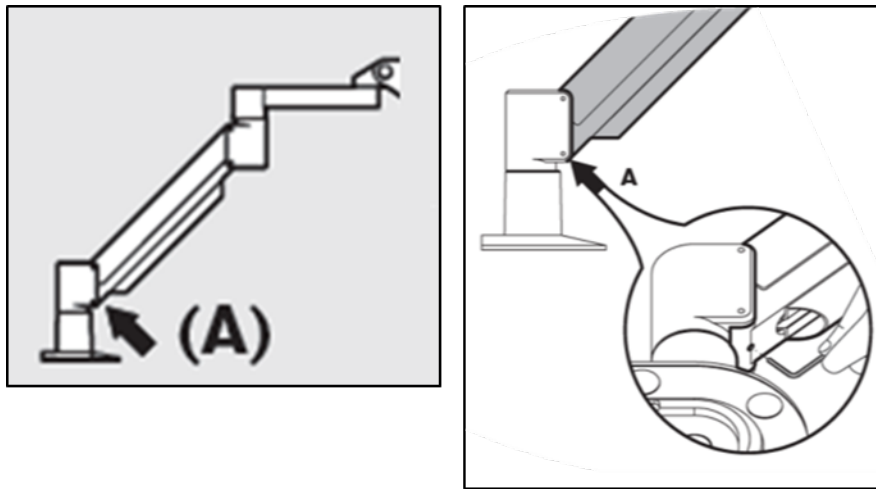

Figure 4-3. Loosen Counterbalance Set Screw A
- If the arm drifts downward, lift the arm to the top of its range and loosen Counterbalance Set Screw A by turning the screw at least a $\frac{1}{2}$ turn. Use a $\frac{3}{32}$ Allen Wrench. See Figure 4-3.
- Raise the arm to the highest position and tighten Counterbalance Set Screw A until contact is made, then tighten $\frac{1}{2}$ to $\frac{3}{4}$ max revolutions. See Figure 4-3.